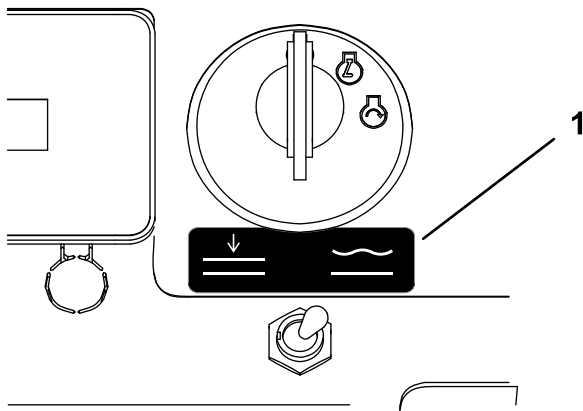

**Figure 6**
- Remove the diode from the Low Flow Kit wire harness, plug the controller harness connector (P03) into that connector, and plug the diode into the diode socket (P07) as shown in Figure 6.